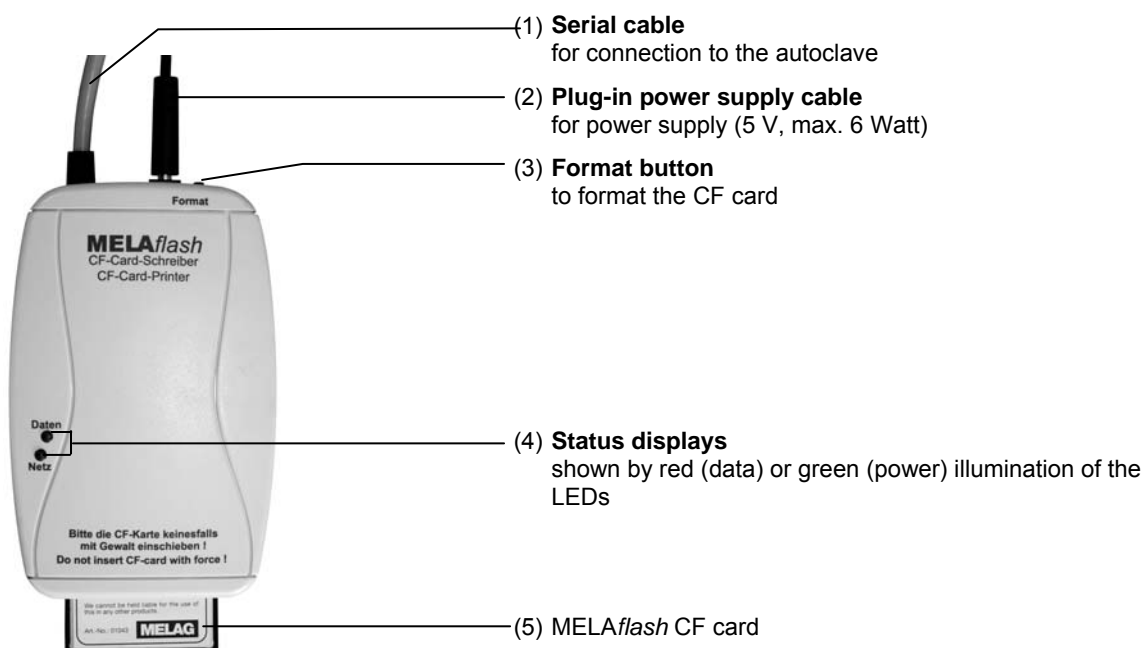

Fig. 1: Device views
- For the power supply, connect the cable of the delivered plug-in power supply unit to the right-hand socket (see 4, Fig. 1/(1) , of the CF Card Printer.